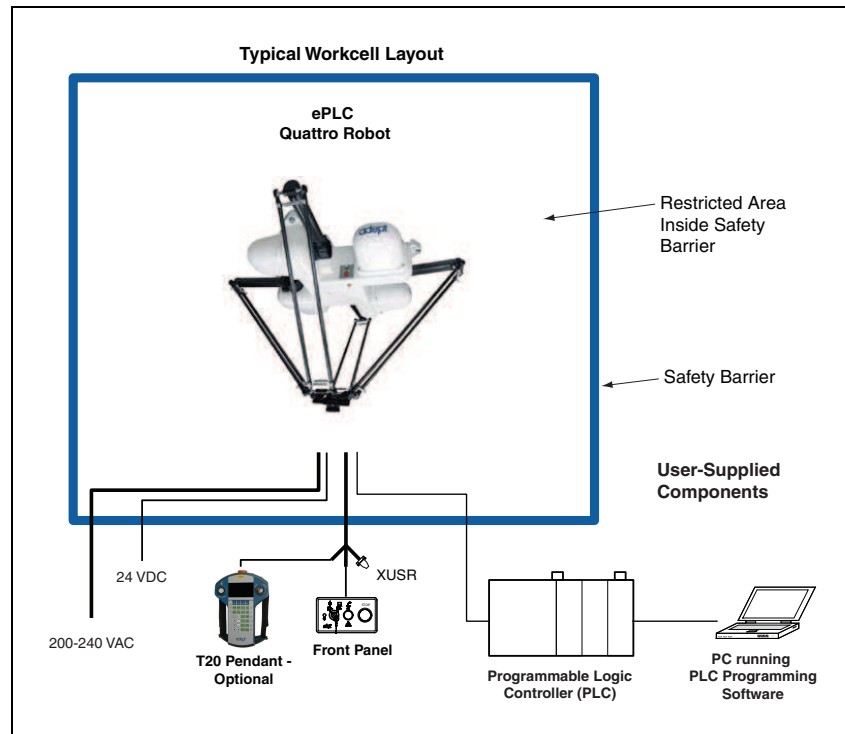

Figure 1-1. Typical Workcell Layout
**WARNING:** It is strictly prohibited to install or operate a robot without adequate safeguards according to applicable local and national standards. See Figure 1-1. for a simple workcell layout.